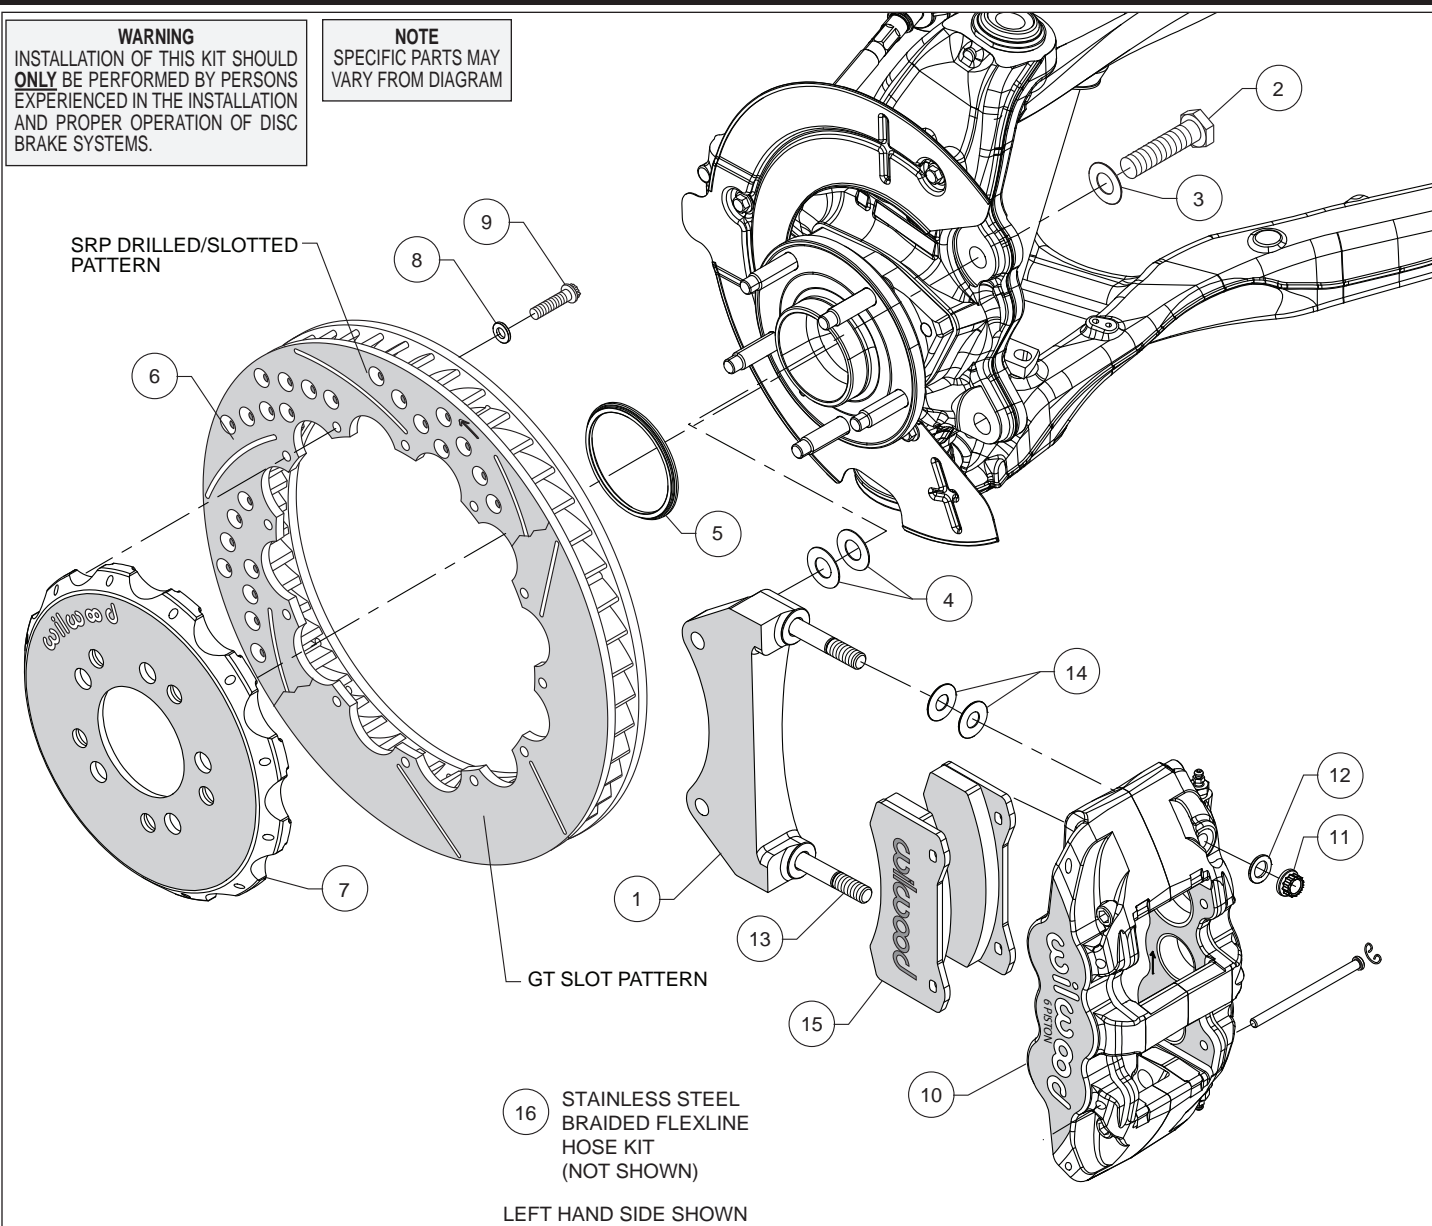
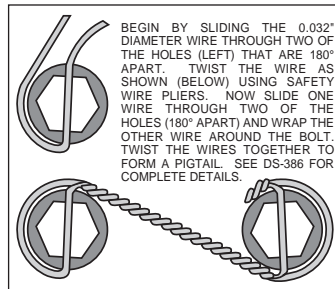

Figure 1. Typical Installation Configuration
Figure 4. Safety Wire Diagram
Assembly Instructions (numbers in parenthesis refer to the parts list and Figure 1 on the preceding pages):
- The caliper mount bracket (1) should initially be installed with clean, dry threads on the mounting bolts. Orient the bracket as shown in Figure 1, and Photo 1 and install using bolts (2) and washers (3). Initially place two .029" thick shims (4) on each bolt between the bracket and upright, Figure 1. Temporarily tighten the mounting bolts. **NOTE: The bracket must fit squarely against the mount bosses on the upright.** Inspect for interference from casting irregularities, machining ridges, burrs, etc. Later, after the caliper alignment has been checked, the mount bolts will be secured using red *Loctite*[®] 271.
- Orient the rotor (6) and the hat (7) as shown in Figure 1 and Photo 2. Attach rotor to hat using bolts (9) and washers (8). Using an alternating sequence, apply red *Loctite*[®] 271 to the threads, and torque to 155 **in-lbs**. For an added measure of security, the bolts may be safety wired using standard 0.032 inch diameter stainless steel safety wire as shown in Figure 4. Please refer to Wilwood's data sheet DS-386 (available at www.wilwood.com/Pdf/DataSheets/ds386.pdf) for complete safety wire installation instructions.
- Slide the rotor registration adapter (5) onto the axle register on the axle hub with the smaller O.D. facing outward, Photo 3. Slide the hat/rotor assembly onto the axle hub. **NOTE: The hat must fit flush against the axle hub flange or excessive rotor run out may result.** Install three lug nuts (finger tight) to keep the hat/rotor assembly in place while continuing with the installation, Photo 4.
- **NOTE: This kit contains distinct right and left hand calipers that must be mounted in a specific direction, as described below.** Lubricate the caliper mounting studs (13) with lightweight oil. Initially place two .030" thick shims (14) on each stud as shown in Figure 1 and Photo 5. Mount the caliper (10) onto the bracket (1) using lock nuts (11) and washers (12), Figure 1. Ensure that the caliper is mounted so that the largest pistons are at the rotor exit end of the caliper, in relation to the direction of rotor rotation. Temporarily tighten the lock nuts and view the rotor through the top opening of the caliper. The rotor should be centered in the caliper, Photo 6. If not, adjust by adding or subtracting shims (4) between the bracket and the upright. Always use the same amount of shims on each of the two mounting bolts. Once the caliper alignment is correct, remove the bracket mounting bolts (2) one at a time, apply red *Loctite*[®] 271 to the threads, and torque to 77 ft-lb.
- Remove the two pad retaining pins from the caliper (10) by carefully popping out the pin retaining clips and sliding out the pins. Insert the brake pads (15) into the caliper from the bottom, Figure 1 and Photo 7. With the friction material facing the rotor, secure the brake pads in place with the pad retaining pins and clips, Photo 8. Reinstall the caliper onto the caliper mounting bracket and temporarily tighten the lock nuts. Check that the top of the brake pad is flush with the outside diameter of the rotor, Photo 9. If not, adjust by adding or subtracting shims (14) between the caliper and the bracket. After the caliper pad height is set, torque the caliper lock nuts (11) to 47 ft-lb.